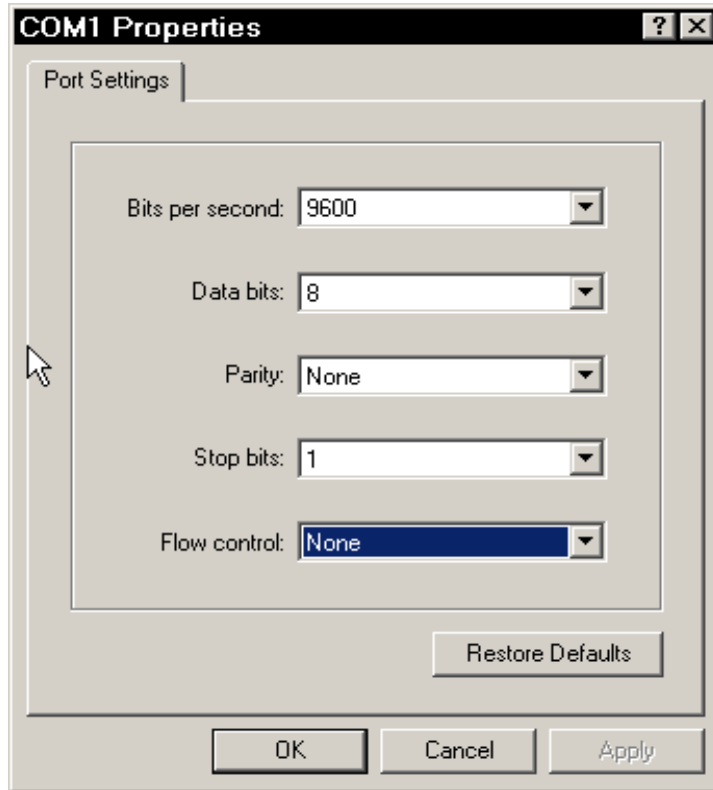

Figure 12 16B-2 Terminal settings
5. On the resulting screen make the appropriate selections as shown in Figure 12 on page 13, and click **OK**.